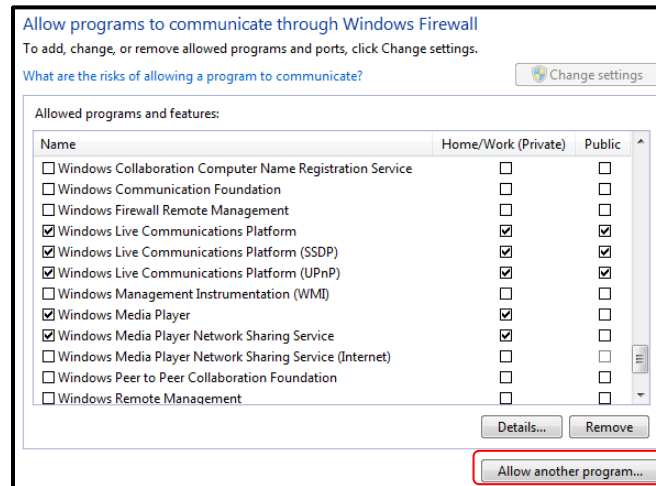

Figure 86 - Adding another program to allowed list
- Click the “Allow another program...” button. Refer to Figure 86.